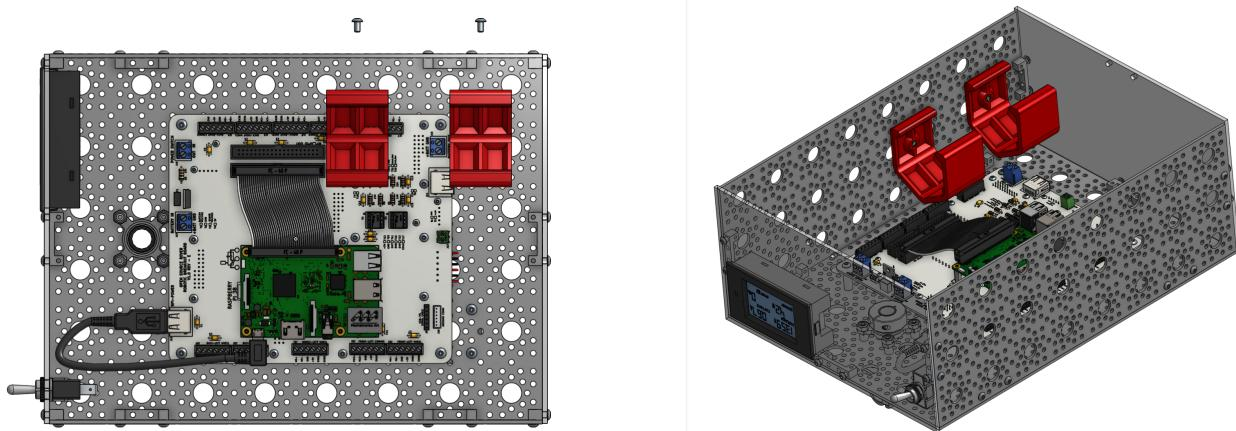

Figure 13: Battery holder installation
6. **Install the battery holders:** Mount the Battery holders onto the body assembly using screws **B1** as shown in Figure 13.